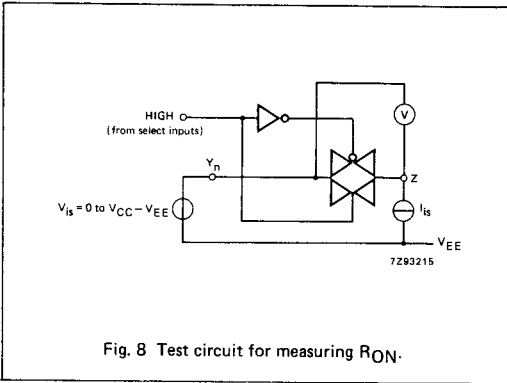

Fig. 8 Test circuit for measuring R_{ON}.
- For test circuit measuring R_{ON} see Fig. 8.